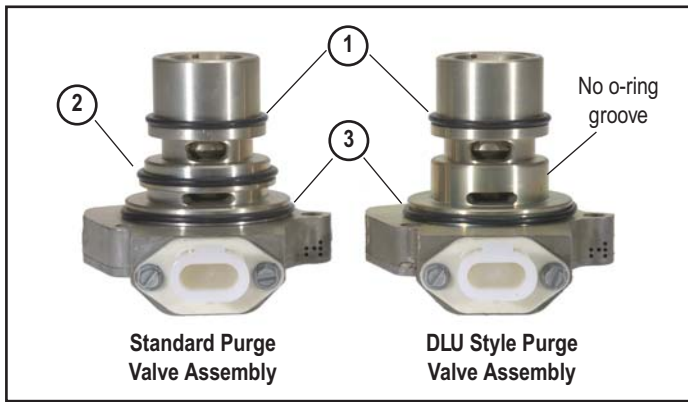
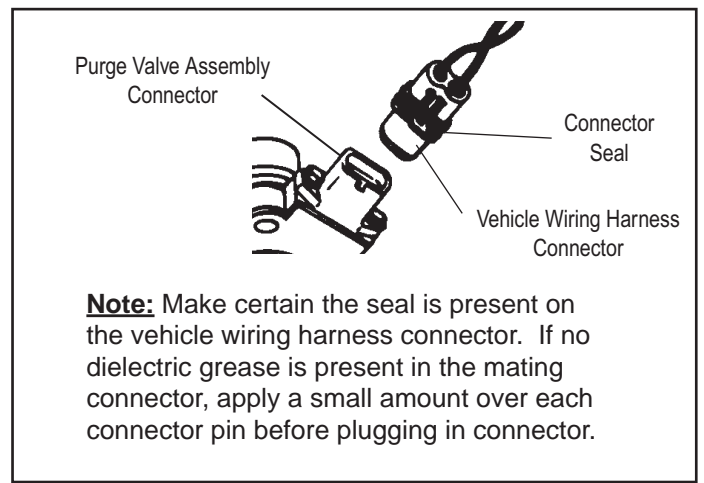

Figure 2 Standard and DLU Style Purge Valve Assembly Identification
Figure 7 Purge Valve Assembly & Wiring Harness Connectors
1. Disconnect the vehicle wiring harness connector that mates with the connector on the purge valve assembly. Make sure the connector seal is present on the wire harness. Refer to Figure 7.
3. Remove and discard the three 1/4" self-tapping screws(11) that secure the purge valve assembly to the end cover and the 3 flat washers (10), if present. Note: Bendix® AD-9® air dryers with extended covers do not have flat washers(10).
5. Pull the purge valve assembly out of the end cover. Discard o-rings 1, 2 and 3. Note: O-rings 1 and/or 2 may be lodged in the end cover bores, be sure to remove these. Note: DLU style purge valves do not have an o-ring(2) or an o-ring groove in the purge valve housing. Refer to Figure 2.
7. Lubricate the o-rings(1, 2 and 3) and the o-ring grooves of the purge valve housing using the lubricant(13) provided. Note that there are three sizes of o-rings. The smallest is o-ring(1), the middle size is o-ring(2) and the largest is o-ring(3). Install all three o-rings in their respective o-ring grooves on the purge valve housing. Use care to not twist the o-rings. Note that DLU style purge valves do not use o-ring(2). Refer to Figure 2.
13. Re-connect the vehicle wiring harness connector to the purge valve assembly. (Refer to Figure 7 and read all notes.)
harness. Check to see if a good ground path exists. Refer to Figure 7.